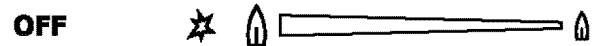

Fig. 2
4. If only the inner burner is needed, continue to rotate the gas control knob counterclockwise somewhere past grey area -*Fig. 2*.